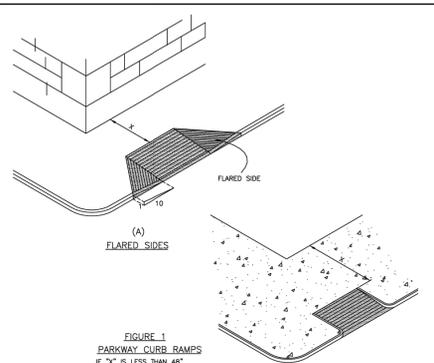

FIGURE 1
IF A CURB RAMP IS LOCATED WHERE PEDESTRIANS MUST WALK ACROSS THE RAMP, OR WHERE IT IS NOT PROTECTED BY HANDRAILS OR GUARDRAILS, IT SHALL HAVE FLARED SIDES. THE MAXIMUM SLOPE OF THE FLARE SHALL BE 1:10 (SEE FIG. 1 (A)) CURB RAMPS WITH RETURNED CURBS MAY BE USED WHERE PEDESTRIANS WOULD NOT WALK ACROSS THE RAMP. (SEE FIG. 1 (B)).